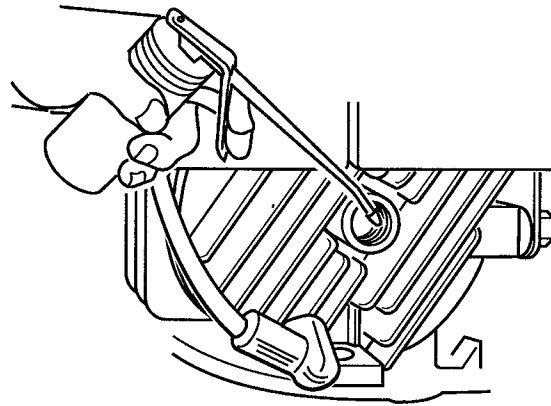

Figure 48
1. Remove spark plug. Using an oil can, squirt about one tablespoon of oil through spark plug hole (Fig. 48).